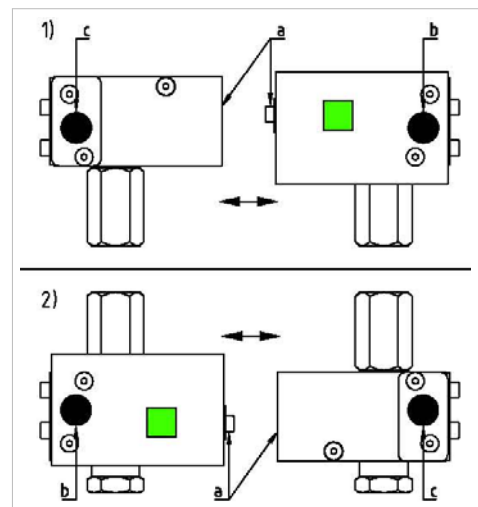

Figure 7: RTC slider position
7. Check the position of the priority slider. Both sliders must be in home position (refer to Figure 7)!